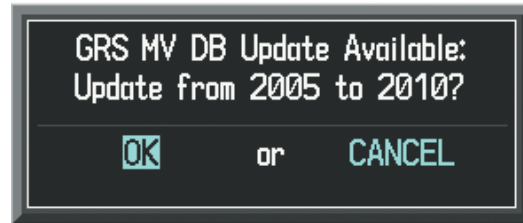

Figure B-11 GRS Magnetic Field Variation Database Update Prompt
- 1) With 'OK' highlighted, as shown in figure B-11, press the **ENT** Key on the MFD. A progress monitor is displayed as shown in Figure B-12.